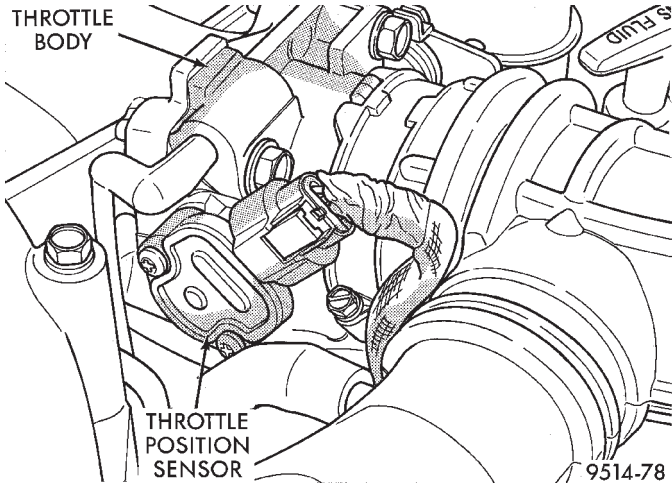
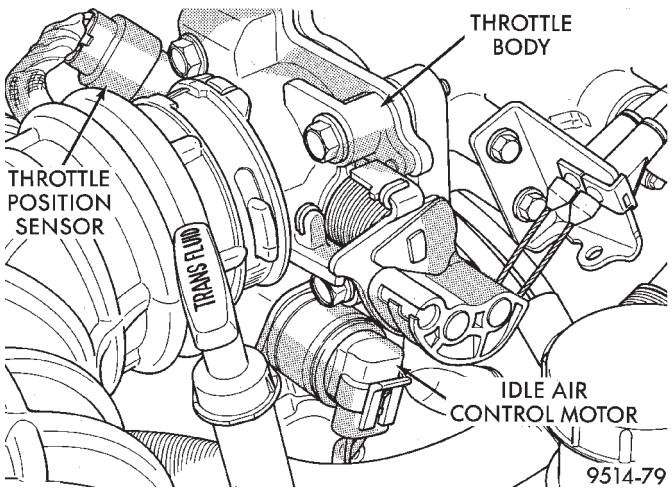

Fig. 35 Throttle Position Sensor
Fig. 36 Idle Air Control Motor
(6) Release snaps holding air cleaner housing cover to housing.
(7) Remove air cleaner cover and inlet hoses from engine.
(8) Unplug TPS and idle air control motor connectors (Fig. 35) and (Fig. 36).